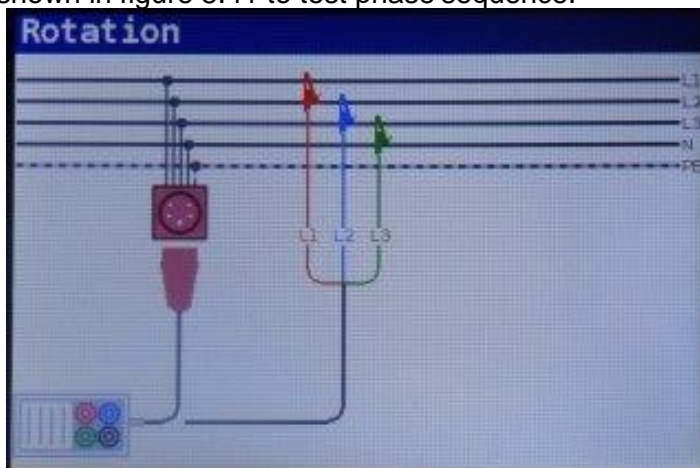

Figure 5-41: Connection of universal test cable and optional three phase cable
- Step 2** Connect test cable to the NOVA instrument and follow the connection diagram shown in figure 5.41 to test phase sequence.